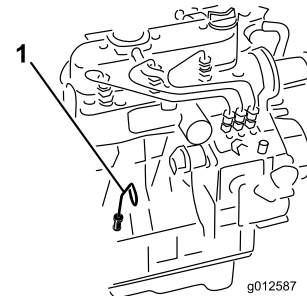

Figure 26
2. Remove dipstick (Figure 26), wipe clean and reinstall dipstick. Remove dipstick and check oil level. Oil level should be up to FULL mark on dipstick.